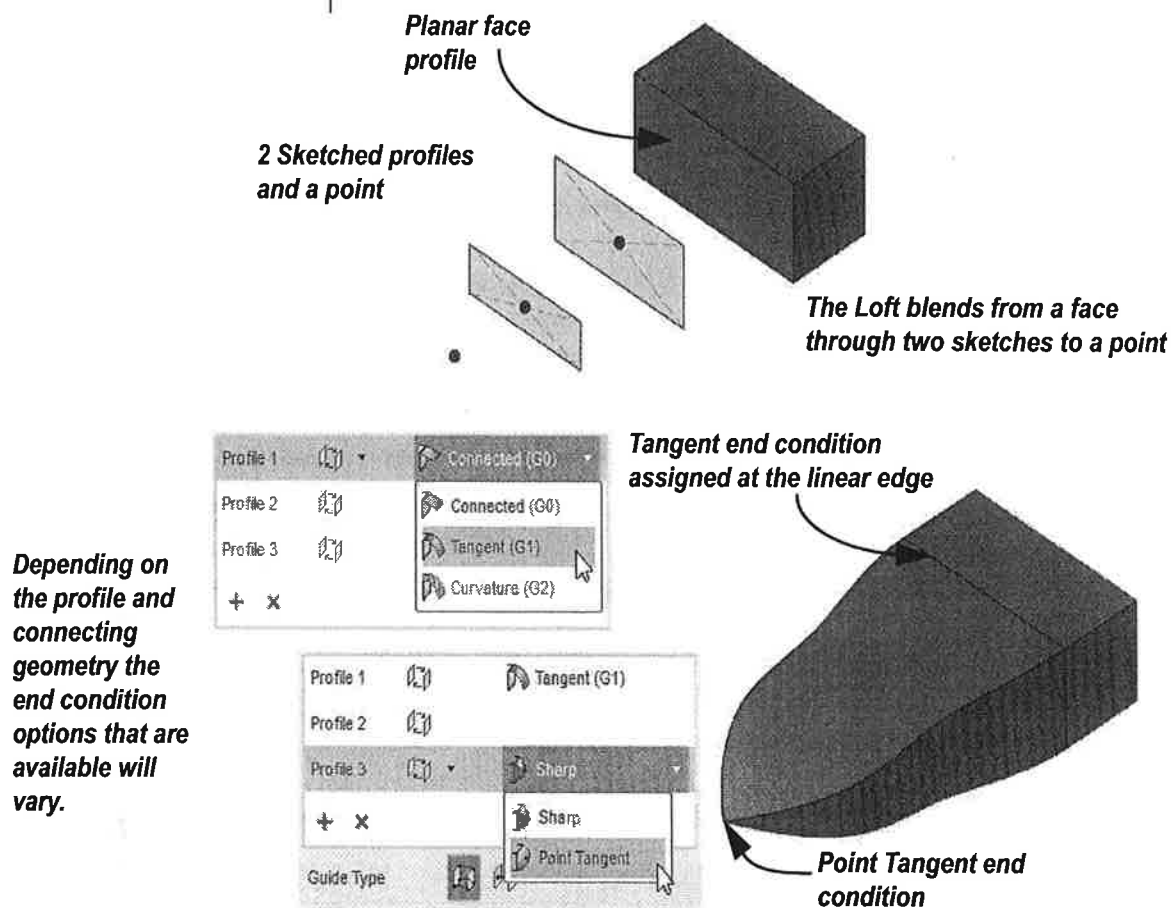

Figure 12-6
- End conditions are assigned at the start and end profiles (to control tangency into existing geometry), and at the end point, as shown in Figure 12-6. To define an end condition, select the option for the profile.